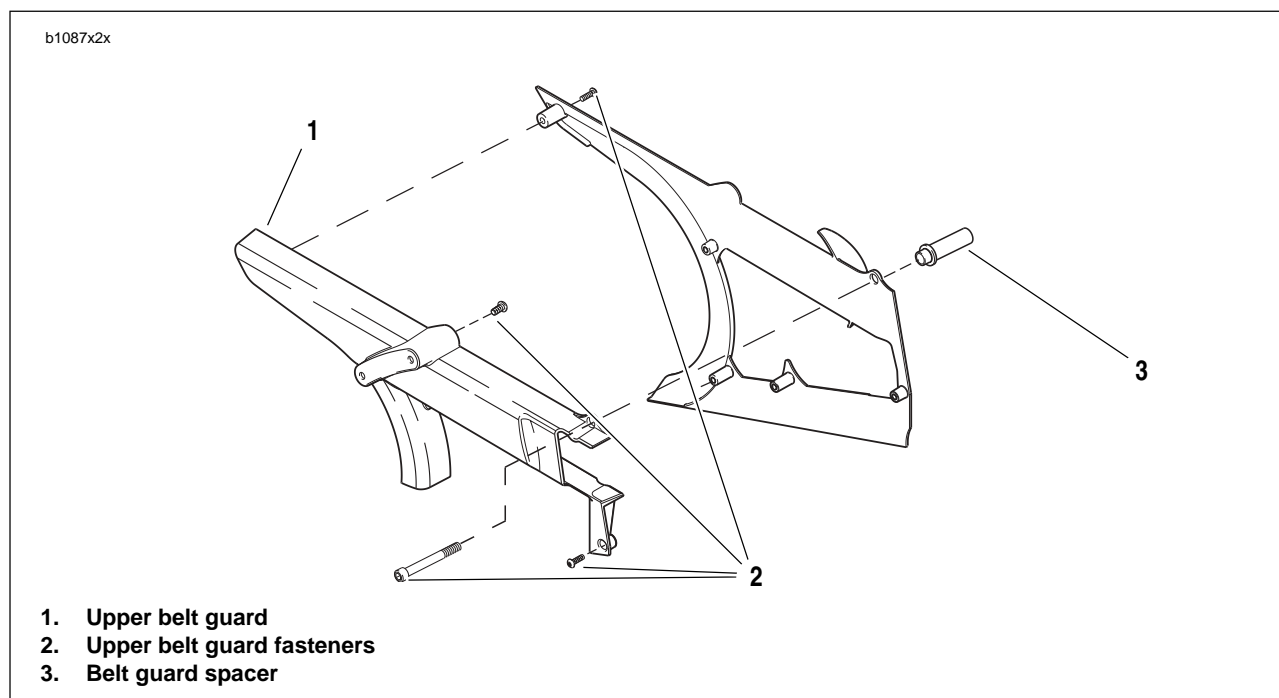

Figure 2-75. Belt Guard Assembly
4. Loosen rear axle (1) approximately 15 rotations to allow partial tension to be removed from rear drive system.
5. See Figure 2-75. Remove upper belt guard (1) by removing fasteners (2).
7. See Figure 2-75. Remove belt guard spacer (3).
See Figure 2-75. Install upper belt guard (1) onto swingarm brace. See 2.32 BELT GUARDS.
1. See Figure 2-75. Position upper belt guard (1) and spacer (3).
3. See Figure 2-75. Tighten upper belt guard (2) fasteners to 12-36 **in-lbs** (1-4 Nm).